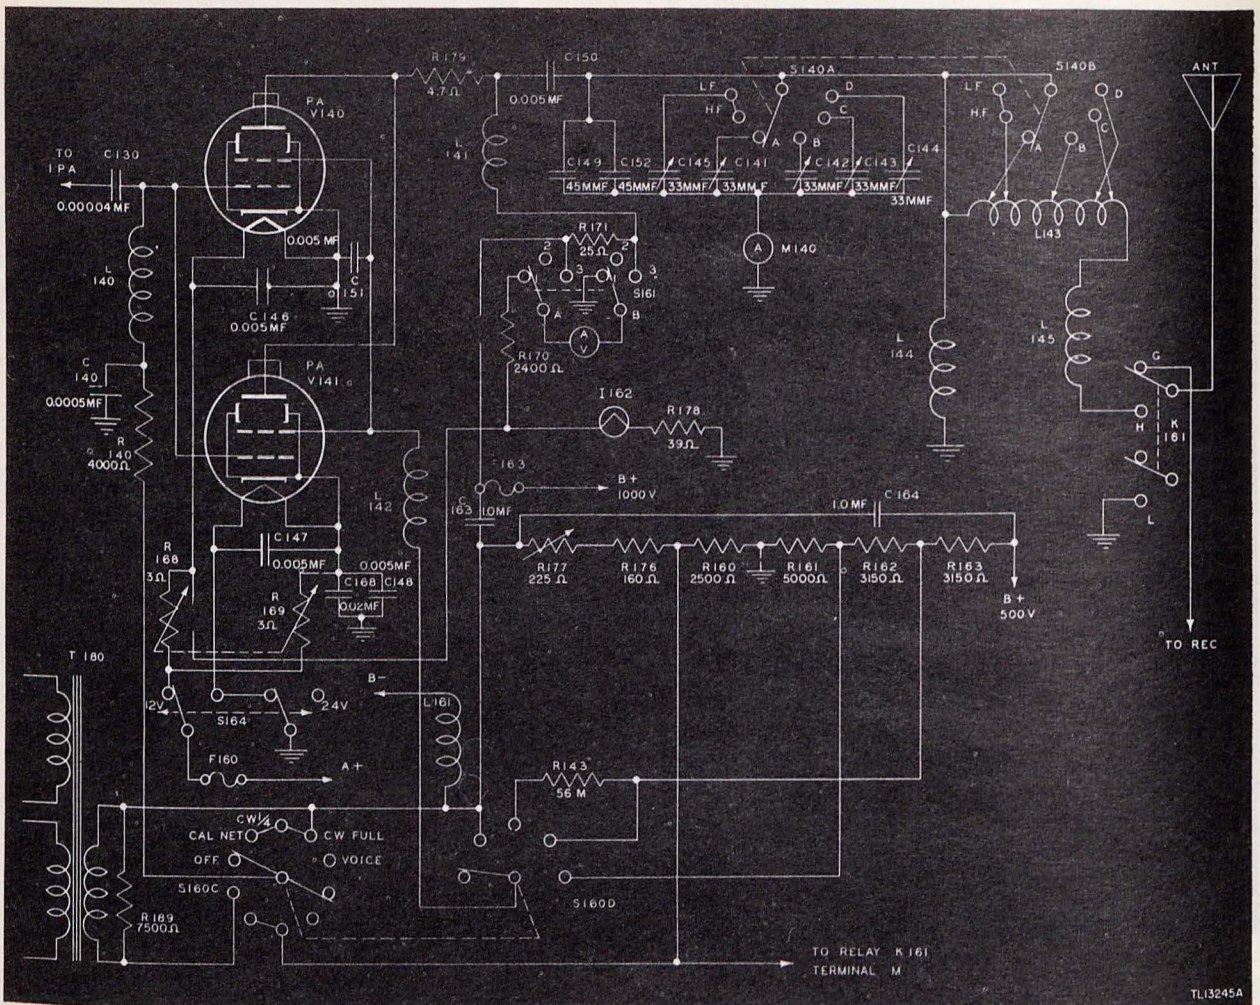

Figure 54. Radio Transmitter BC-653-A, functional diagram of p-a circuit.
Figure 54 is the schematic diagram of the p-a circuit. The power amplifier uses two beam-power tetrode Tubes JAN-814 (VT-154), V140 and V141, connected in parallel. This stage is grid-modulated during voice operation.
d. Capacitors C149 and C152 are fixed capacitors connected to tank coil L143 regardless of the position of BAND CHANGE switch S140A and S140B (fig. 54). Capacitors C141, C142, C143, and C144 tune the p-a tank circuit to the four preset frequencies A, B, C, and D, respectively. These capacitors are adjusted by the controls on the panel marked PRESET FREQUENCIES ANTENNA COUPLING. Capacitor C145 is the tank circuit capacitor for tunable frequency operation. It is adjusted by the control marked ANT COUP'G LF-HF. Switch section S140B selects the correct tap on tank coil L143 through the sliding contacts on the coil. L145 is the antenna-loading coil. Relay